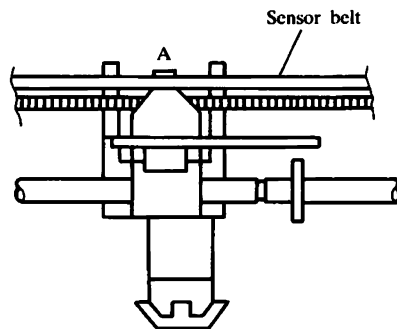

Fig. 46
- (1) The top (A) of the knob should be located between the belt. (Refer to Fig. 46)
- (2) Insert the left end of the sensor guide bar into the left-side-hole of the head frame, then the right end into the right-side-hole. And slide the bar to the right as much as you can.
- (3) Snap the snap ring E6 on the right end groove of the sensor guide bar to fix it.